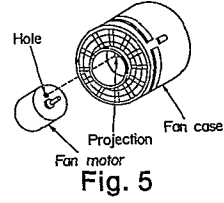

Fig. 5
5. When mounting the motor fan, align the fan casing's projection with the hole of the fan motor. (Refer to Fig. 5)